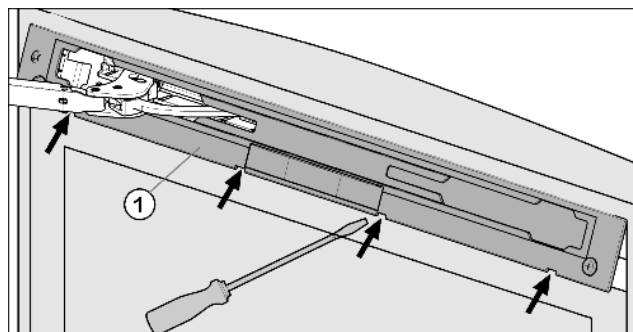

Fig. 14
- Release panel Fig. 14 (1) using slotted screwdriver and remove.